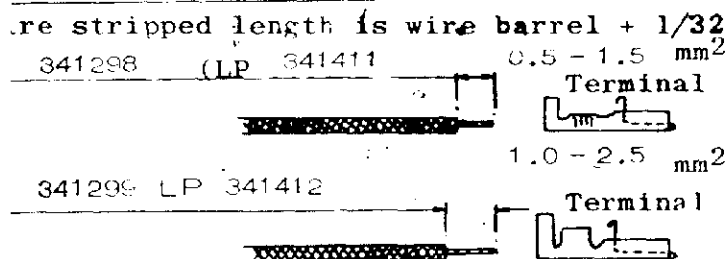

FIG. 2
2. Strip wire as shown in FIG. 2. Insert stripped wire into the terminal.